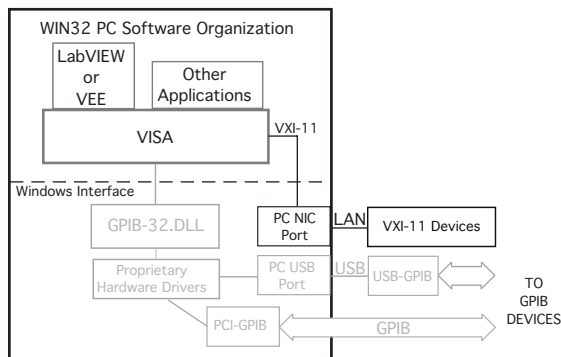

Figure 3-2 VISA to VXI-11 Communication Path
VISA libraries provide an standardized application interface for user programs and outputs that communicate with standard hardware ports such as PC COM ports, PCI bus, and USB ports. VXI-11 compliant VISA libraries provide VXI-11 calls over the TCP/IP network to communicate with VXI-11 instruments as shown in Figure 3-2. Agilent and National Instruments (NI) provide VXI-11 capable VISA and SICL libraries with their graphical test application programs. While the more popular VISA libraries run in WIN32 operating systems, VISA libraries are available for some UNIX, LINUX and other operating systems.